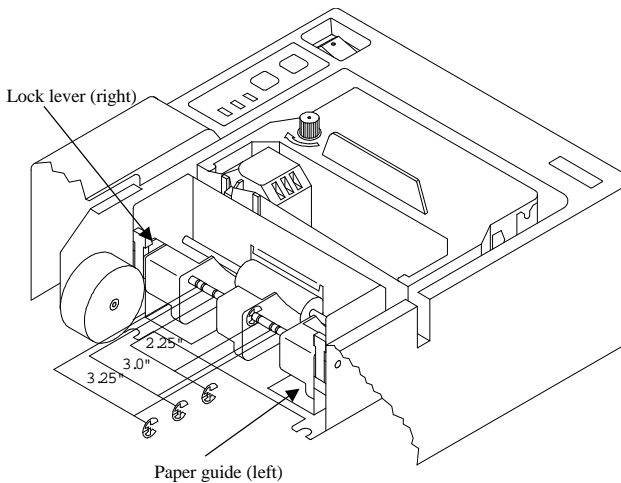

Fig. 7 Grooves on paper guide shaft
- Release the lock levers of both the left and right paper guides and push the paper guides outward to show the three sets of grooves on the paper guide shaft. Insert the E - rings into the grooves corresponding to the paper width (ref. Fig. 7). Push the paper guides inward to touch the E - rings and fix the lock levers leaving a 0.5mm gap between each paper guide and each edge of the paper to feed.